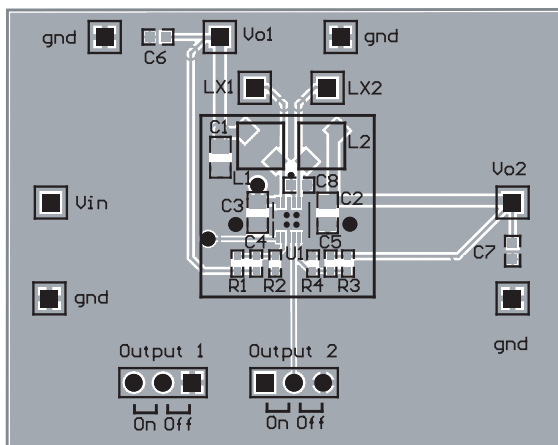

Figure 4: AAT2510 Evaluation Board Top Side.
The proper placement of the input capacitor (C3 and C8) can be seen in the evaluation board layout in Figure 4. Since decoupling must be as close to the input pins as possible, it is necessary to use two decoupling capacitors. C3 provides the bulk capacitance required for both converters, while C8 is a high frequency bypass capacitor for the second channel (see C3 and C8 placement in Figure 4).
1. Due to the pin placement of V_{IN} for both converters, proper decoupling is not possible with just one input capacitor. The large input capacitor C3 should connect as closely as possible to V_p and GND, as shown in Figure 4. The additional input bypass capacitor C8 is necessary for proper high frequency decoupling of the second converter.